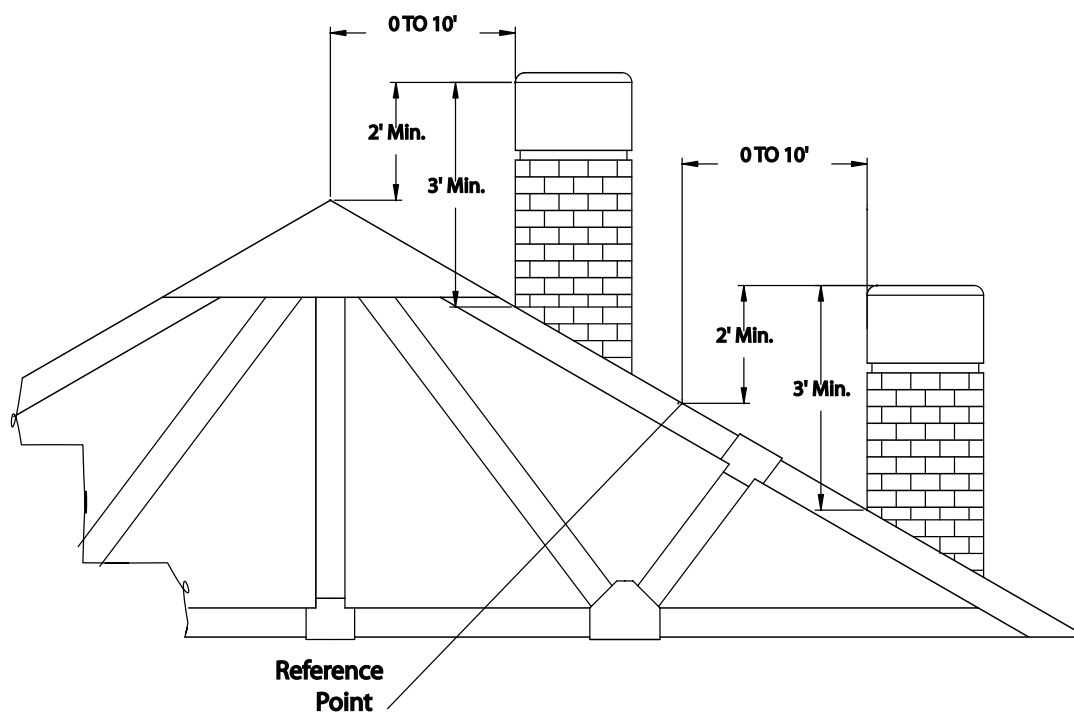

Figure 13: The 2'-3'-10' Chimney Rule
3. The chimney should extend at least 3' (914 mm) above the highest point where it passes through the roof, and at least 2' (610 mm) higher than any portion of a building within 10' (3 m). *Figure 13.*